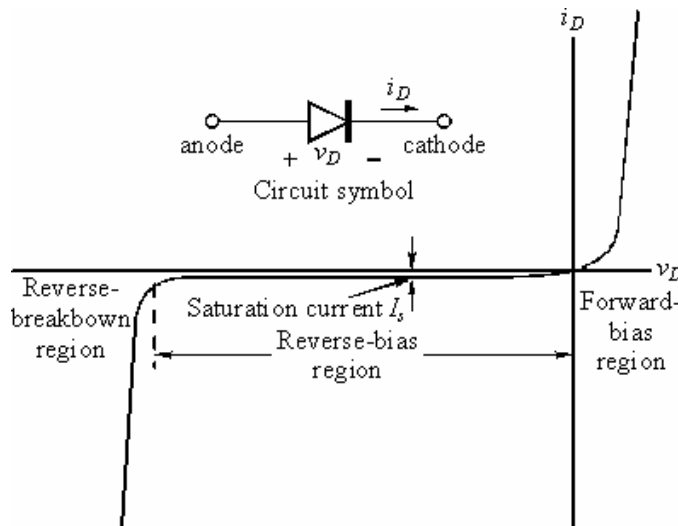

Figure A-3
*I-V Curve of a Diode:* Figure A-3 shows typical characteristics of a real diode.